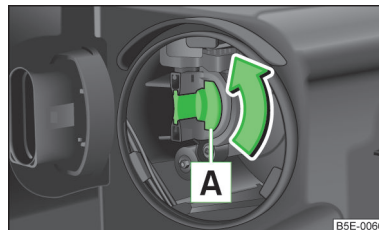

Fig. 214
- Turn the bulb holder » Fig. 214 **anti-clockwise** up to the stop and remove.